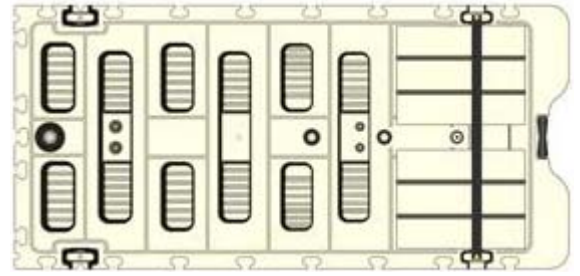
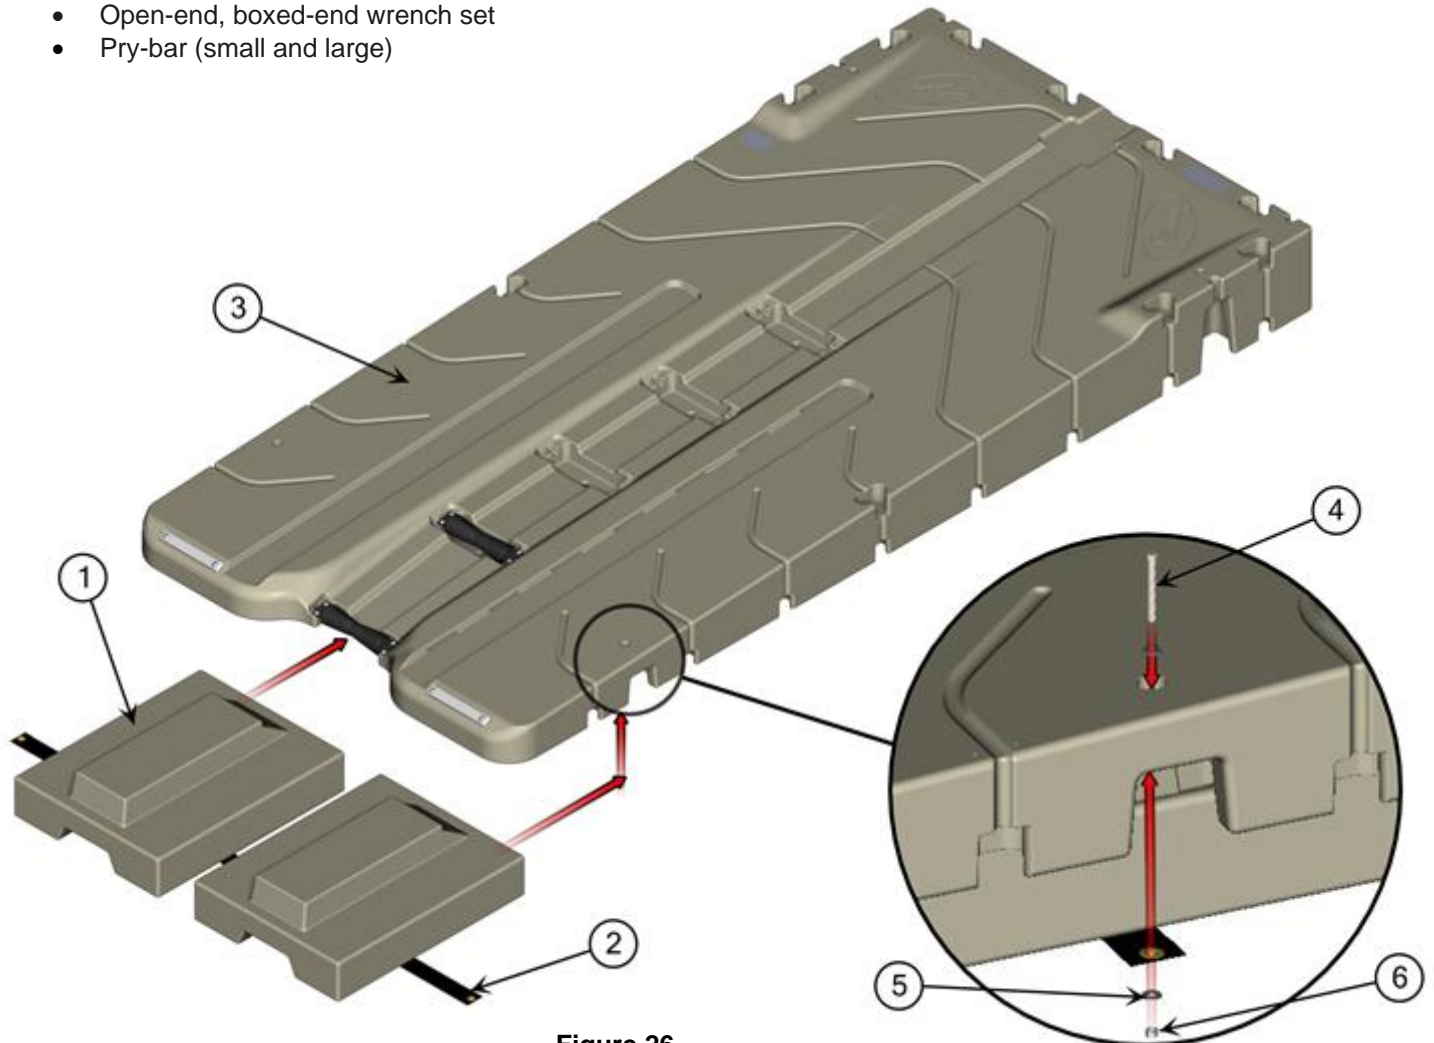

Figure 25.
Figure 26.
1. Once the EZ BoatPort (Item 3) is installed at its desired location, place the supplemental floats (Item 1) under the port into rear pylons (Figure 25). This can be done by submerging the supplemental floats and pushing them under at the entry of the EZ BoatPort (Figure 26). **NOTE:** Two people may be needed due to the buoyancy of the supplemental floats.
2. Secure supplemental floats with the strap (Item 2) and two (2) washers (Item 5), one (1) bolt (Item 4) and one (1) nut (Item 6) on each side through the hand hold area thru-holes (Detail A).